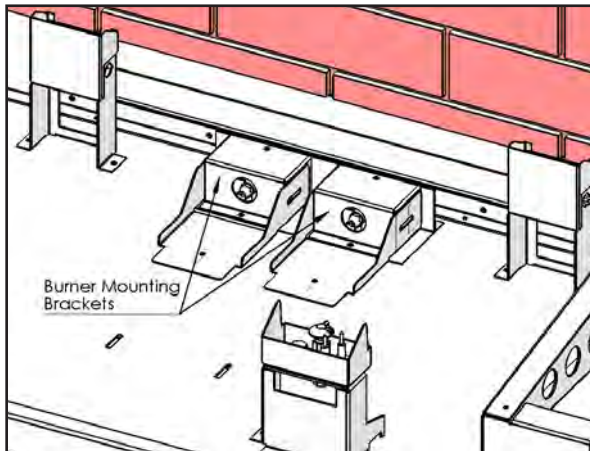
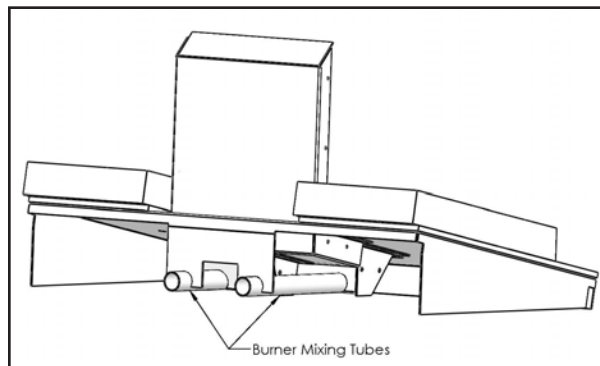
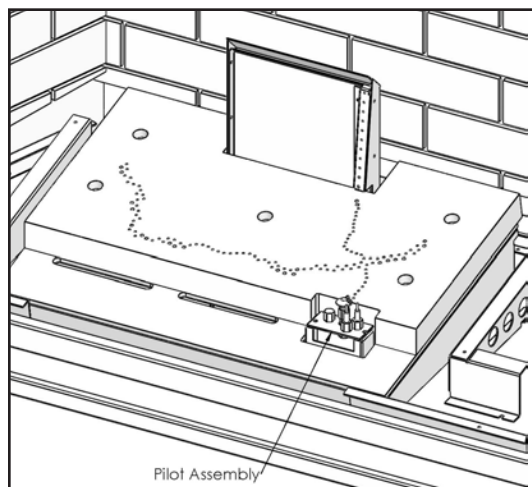

Figure 14: Burner Mounting Brackets.
Figure 15: Burner Mixing Tubes
Figure 16: Log Burner Over Pilot Assembly.
1. In the bottom rear of the firebox there are two (2) gas orifices in a housing that facilitate the air shutter mechanisms and the Burner Mounting Brackets are above them (See Figure 14). There are two (2) mixing tubes underneath the back of the burner (see Figure 15). Lift the burner into the firebox with the back of the burner tilted downward. Keep the burner high enough at the front to clear the pilot assembly. Line up the mixing tubes with the holes in the burner mounting brackets and slowly lower the front of the burner over the pilot assembly (see Figure 16).